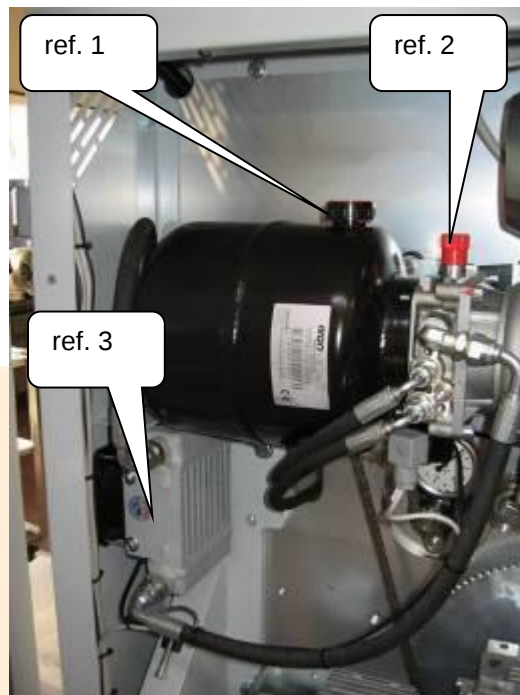

Figure 33 - Topping up system oil
The tank features a filler cap Figure 33 ref. 1: insert a (clean) graduated rod until it touches the bottom of the tank, keeping it vertical; the oil level is correct if it is between 20 mm and 30 mm from the upper edge of the tank.